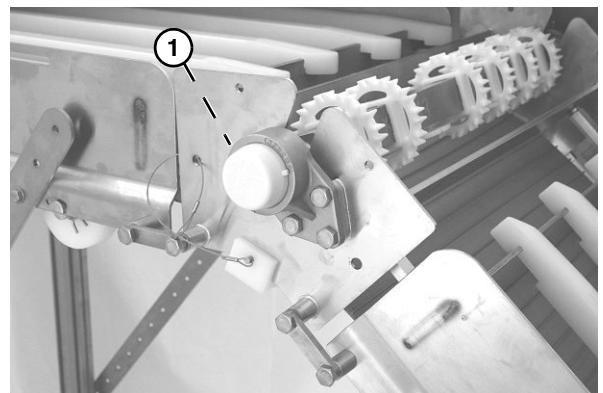

Figure 43
2. On LPZ knuckles, add grease to grease fitting (Figure 43, item 1).